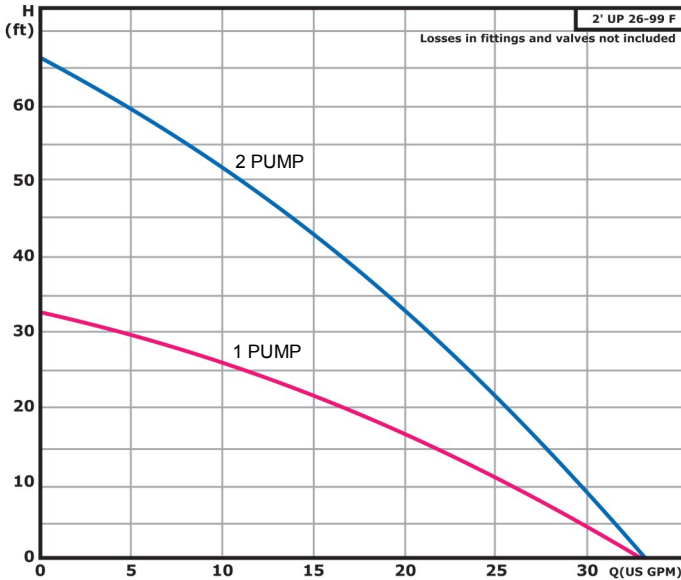

Fig. 1.
The EA® has two separate pumping circuits designed to work with two heat pumps or a large dual stage heat pump with two circuits. Each pumping circuit shall be checked with the performance curves (See Fig. 1 ,2 & 3). To ensure adequate flow, the selection must be based on your specific system design. Total system flow shall be no greater than 28 GPM.
1. By using the flow meter tool, monitor the flow (GPM) being pumped through the entire system. If the flow is not correct, check that the proper flow center has been selected for the application using curves from Fig. 1 and 2. If the pump curve indicates the proper flow center was installed and the GPM is less than the system requires, an obstruction in the system is restricting flow.